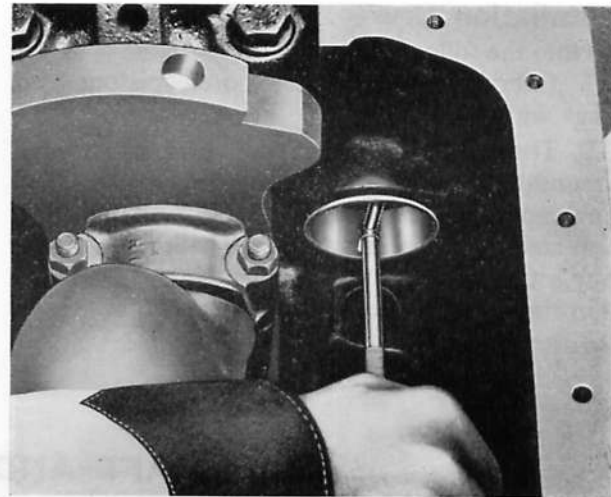

Fig. A.43. Checking a camshaft bearing bore for wear, using a telescopic gauge
4. Inspect for worn camshaft bearings by measuring the bearing bore diameter (Fig. A.43). To renew the bearings it will be necessary to remove the engine (page A-31).